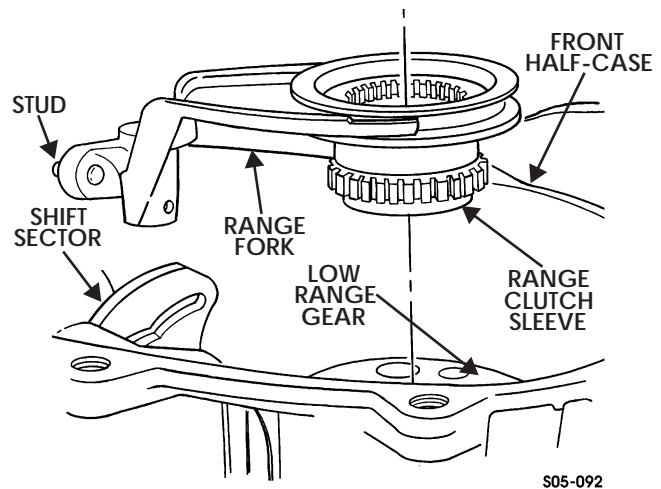

Figure 5-145: Range Fork and Range Clutch Sleeve
37. Twist range fork and range clutch sleeve to disengage stud from shift sector, and remove from front half-case and low range gear (Figure 5-145).